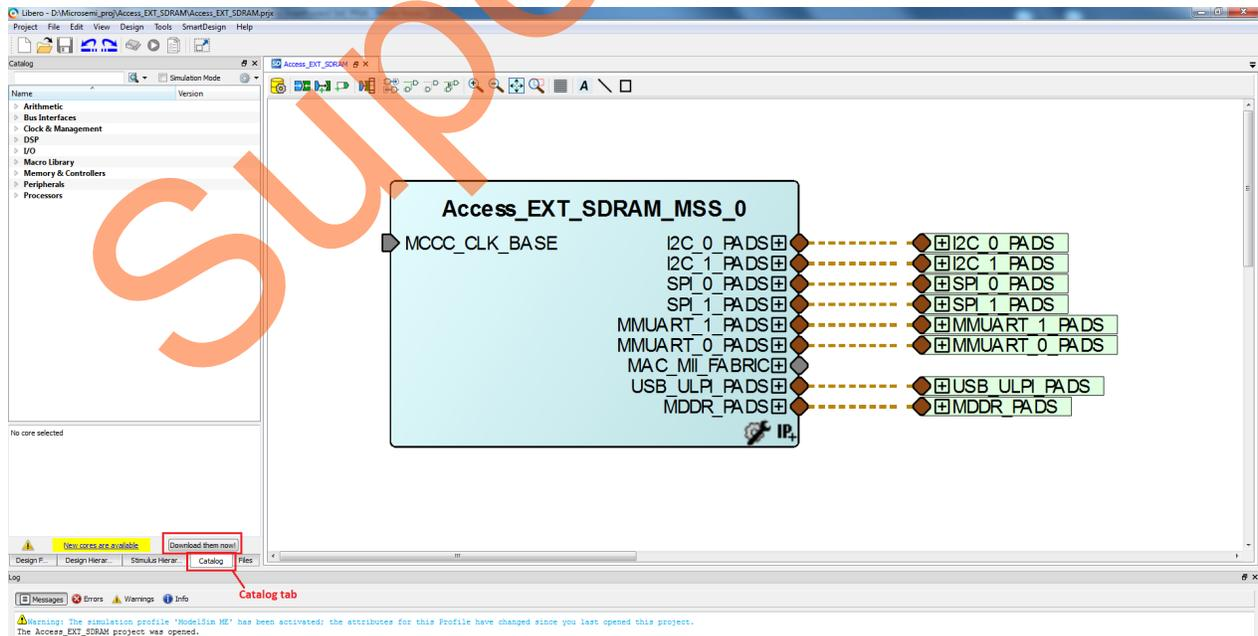

Figure 5. Libero Window on Completion of New Project Creation Wizard
1. The project is created and the Libero SoC window is displayed as shown in Figure 5. The **SmartDesign** window opens and a project **Access_EXT_SDRAM** is created with the instantiation of the MSS component.